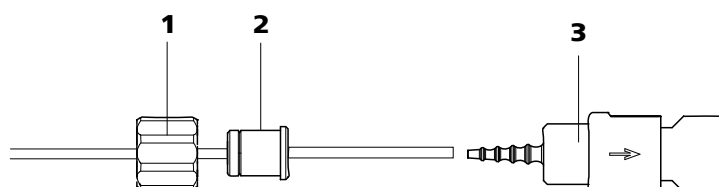

Figure 20 Install pump tubing connection with filter
- **Case A:** a 6.2744.180 pump tubing connection **with filter** (see Figure 20, page 31) or